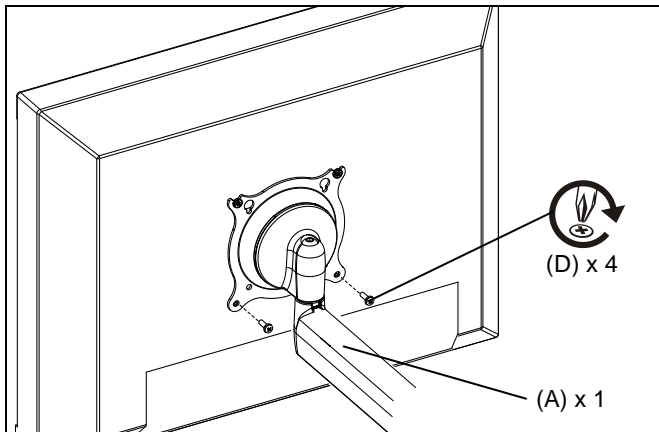

Figure 5
4. Using Phillips screwdriver, install two remaining screws (D) through *lower* mounting holes in Centris bracket into display. (See Figure 5)